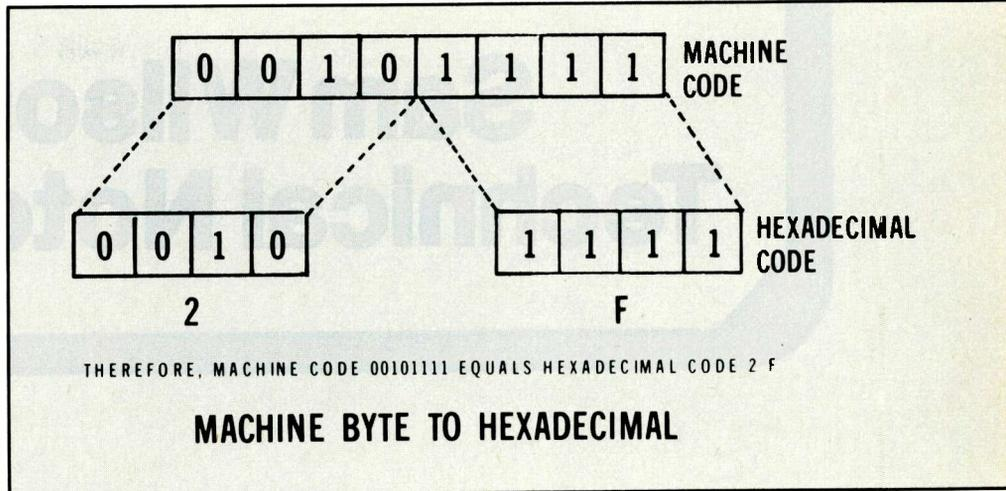

Figure 6 According to the example, binary byte machine code 00101111 equals 2F hexadecimal code.
duces a voltage gain of almost two. When a square wave (Figure 6) passes through an R/C high-pass filter of the proper values, the output pulses from one peak to the next have about twice the amplitude of the square waves that produced them.
Figure 6 A square wave that is differentiated by the high-pass filter of A produces pulses that have almost double the total height of the original square waves (B). Can a filter amplify?
The alternate path (to the right) is called a branch or a jump. Branching is done with the 6800 microprocessor by order of the machine code 00101111. Conversion of this machine code to the more convenient hexadecimal code is illustrated in Figure 6.